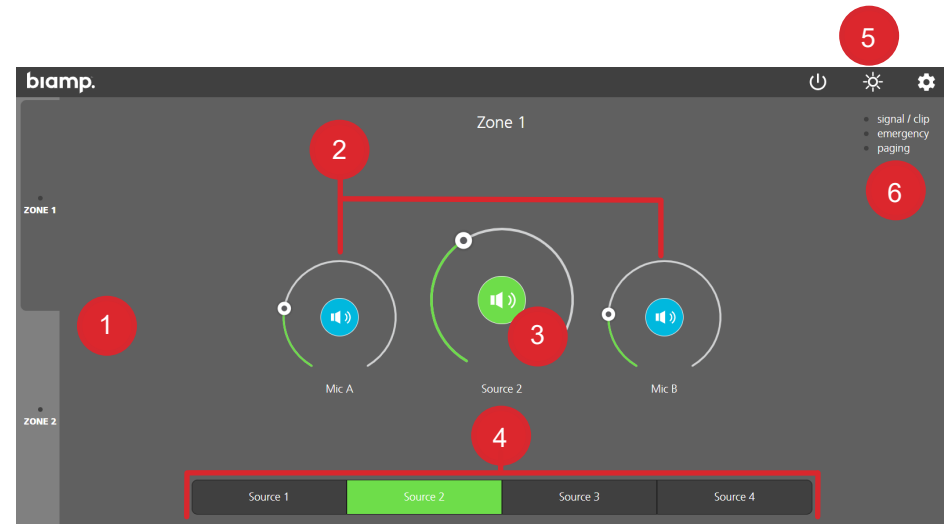

Figure 14. Webapp Settings Page
See Figure 14 on the following page for an example of the Control page
- Night Mode - changes the color scheme so the PREZONE2 display is more suitable (dimmer) for dark locations (Fig. 14 shows Night Mode).